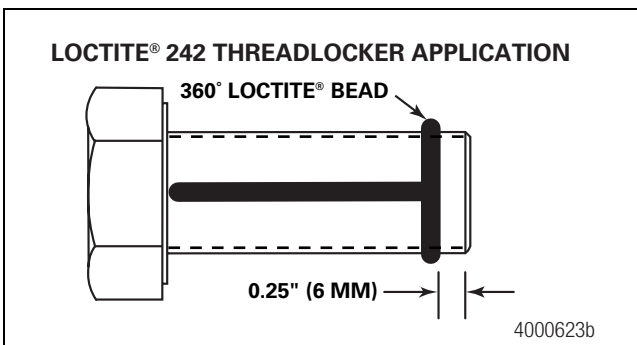

Figure 4.16
13. Apply a 0.125-inch (3 mm) bead of Loctite® 242 threadlocker around the capscrew threads approximately 0.25-inch (6 mm) from the end. Apply a 0.125-inch (3 mm) bead of Loctite® 242 threadlocker across the length of the threads. Figure 4.16.